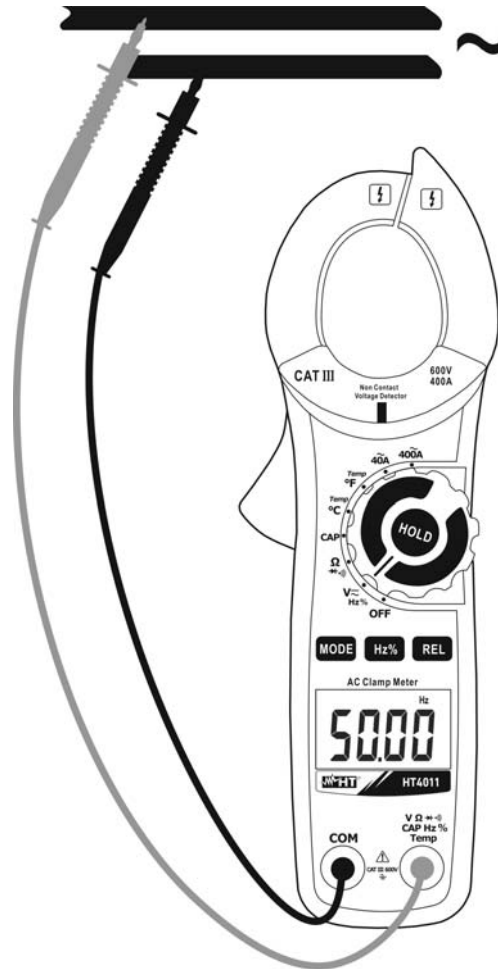

Fig. 4: Use of the clamp for frequency measurement and duty cycle
3. Insert the red cable into input terminal **VΩHz%Temp** and the black cable into input terminal **COM** (Fig. 4 – left side) for measuring frequency with leads. The value of frequency (Hz) or of duty cycle (%) is shown on the display.